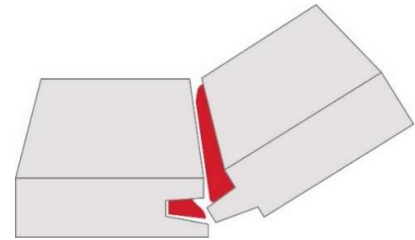

Figure 5
10. It is mandatory that adjacent rows of panels be staggered with minimum one joist clear span - “brickwork pattern”, see figure 5.